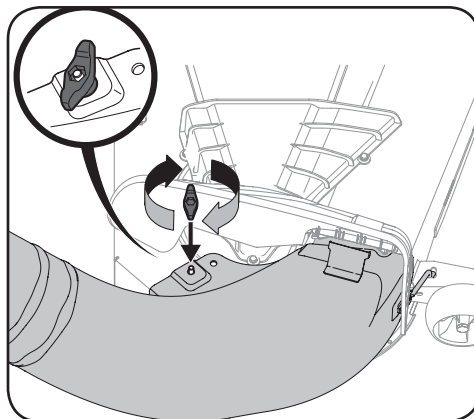

Figure 4-25
5. Secure the discharge chute elbow to the cutting deck using a (720-04122) wing knob included with the bagger kit. Refer to Figure 4-25.